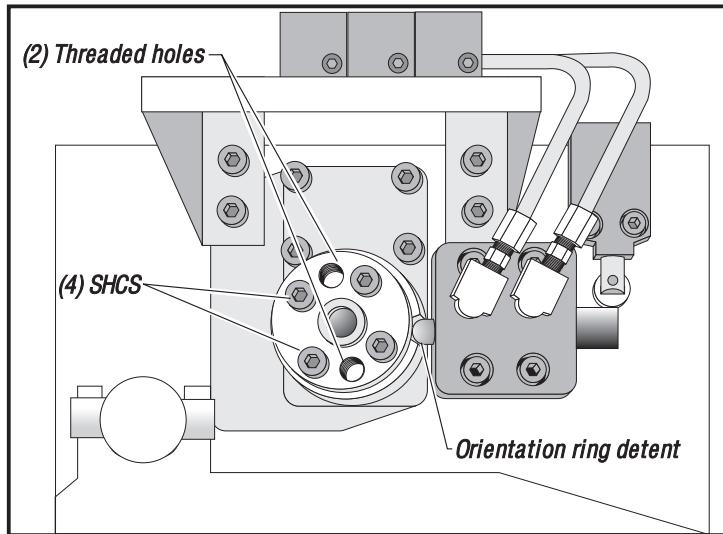

Figure 3-9. Rear view of spindle orientation components.
3. Loosen the four SHCS on the orientation ring (Figure 3-9). Remove two of these screws and insert them into the two threaded holes in the ring. Evenly tighten these two screws until the taper lock is broken free from the shaft.